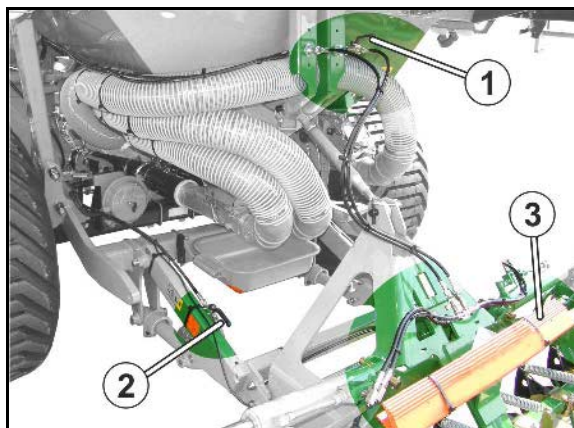

Fig. 112
2. Close the slide (Fig. 112/1), if only the dosing unit and not the hopper is to be emptied (see Seite 104).